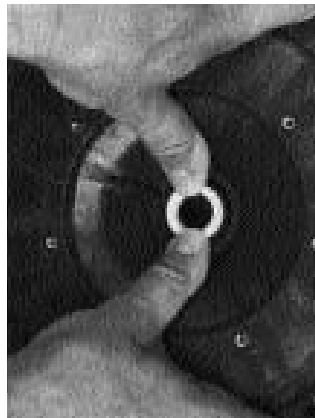

Figure 7: Press seal into heat sink in seal plate
1. Ceramic seat must be clean and free of dirt, grease, dust, etc. Wet outer edge of rubber cup on ceramic seat with small amount of liquid detergent; press ceramic seat into seal plate firmly and squarely with finger pressure (Figure 7).